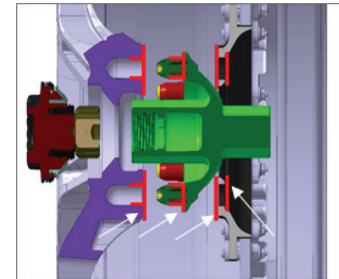

Figure 5
6. If any anti-corrosion oil is present from manufacturing on any mating surfaces (marked in red with white arrows in Figure 5), on new or old parts, clean the parts with a microfiber cloth and brake parts cleaner. Document presence of anti-corrosion oil with pictures.